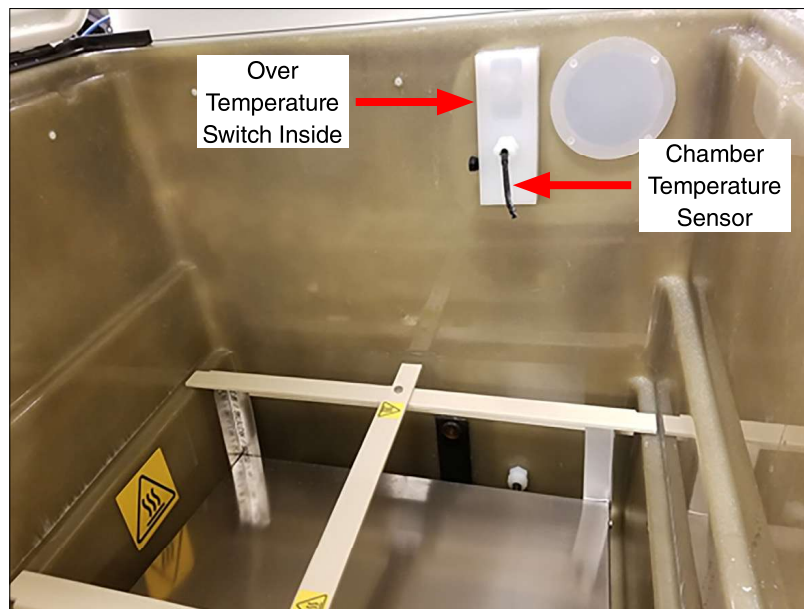

Figure 8.10: Chamber temperature sensor and over temperature switch locations.
- The chamber temperature sensor is mounted in a flexible probe on the right end of the chamber (Figure 8.10).